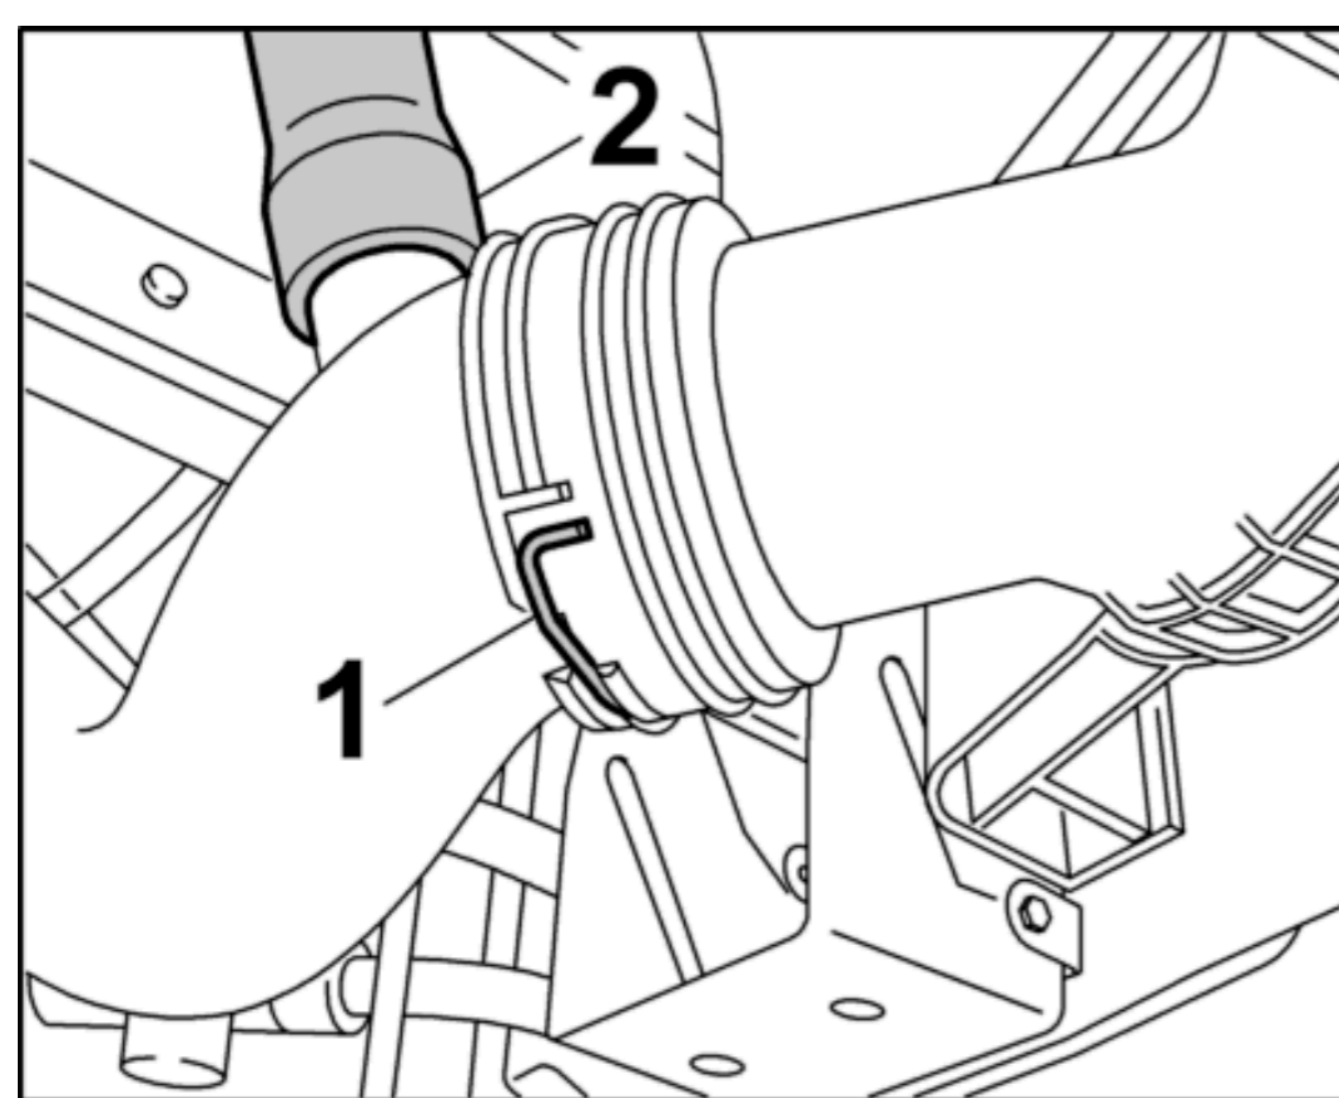
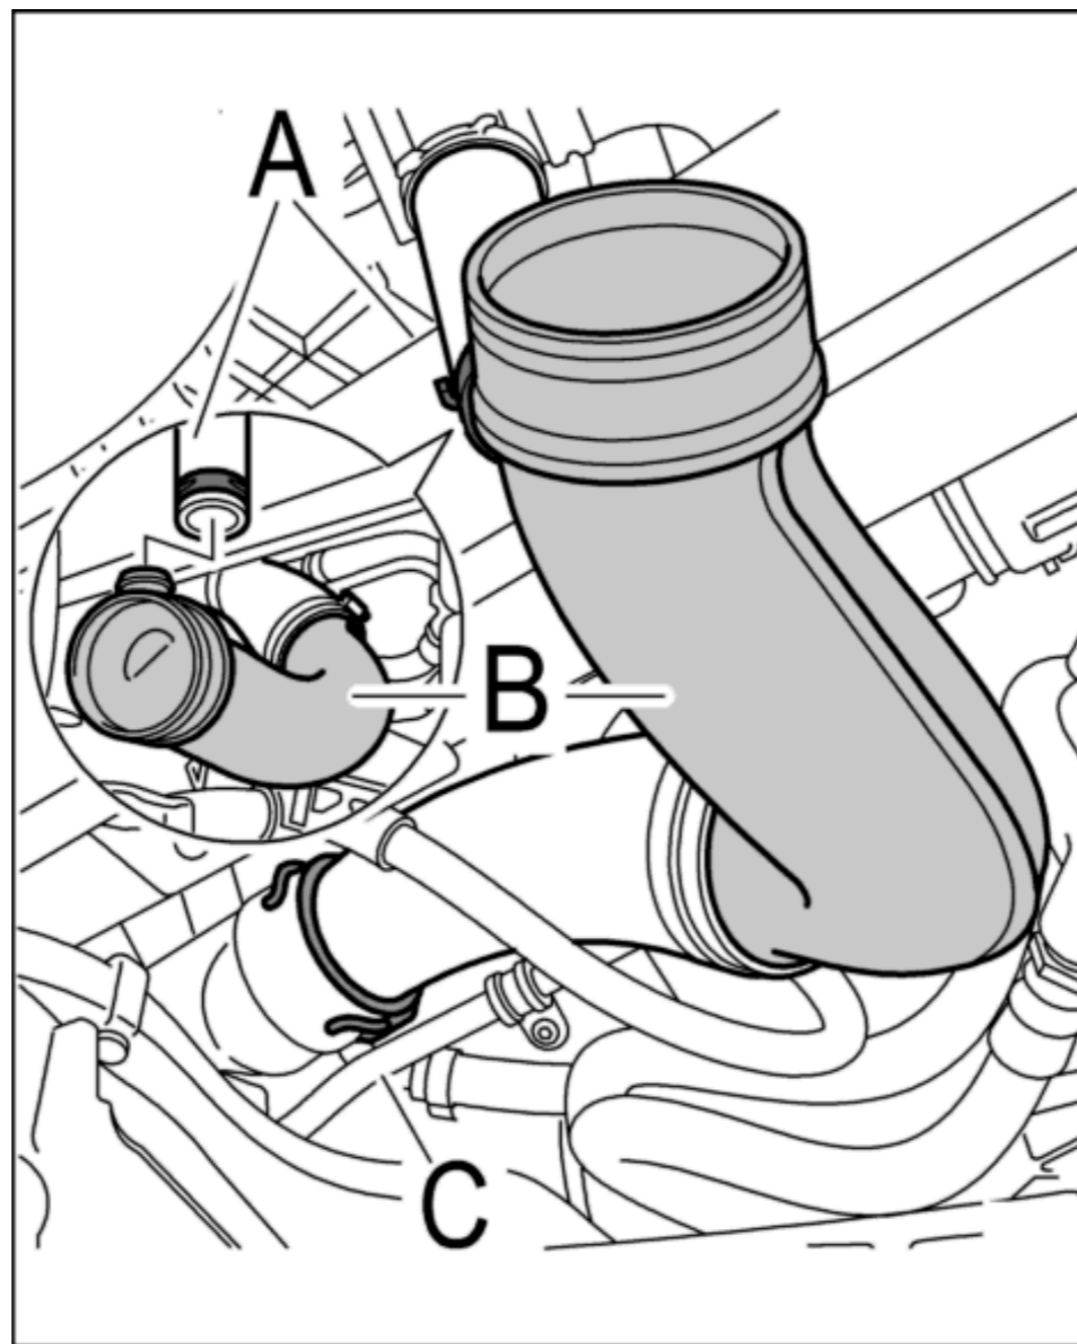

Fig. 47: Lower pressure pipe
Fig. 48: Pressure pipe with right pressure hose (other view)
3. Disconnect lower pressure pipe. To do so, lever out wire clips using a screwdriver -1- and pull off tube. Put wire clips back into installation position immediately. --> Lower pressure pipe --> Pressure pipe with right pressure hose (other view) . See **Fig. 47** and **Fig. 48**.